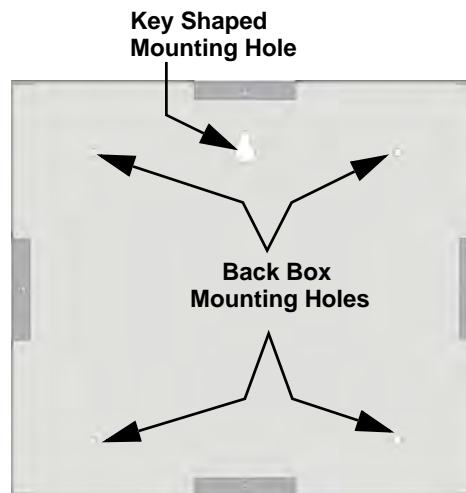

Figure 4.30 Back Box Surface Mount Holes
2. To properly mount the back box, insert a single screw into the key-shaped mounting hole. Do not tighten all the way. See Figure 4.30. Place a level on top of the back box, with the back box level, insert the rest of the mounting screws.